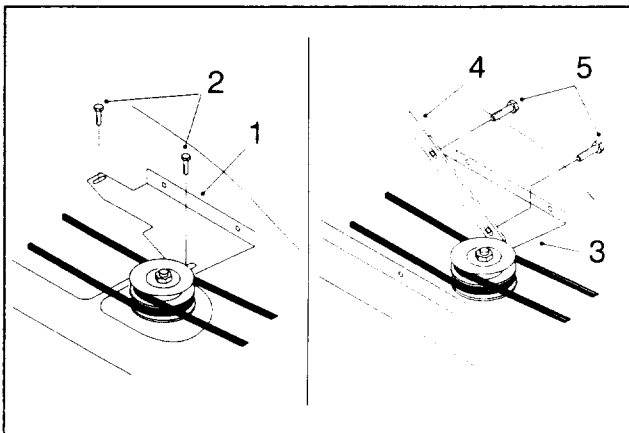

Figure 8
2. Install the mower belt-cover bracket (Fig. 8).